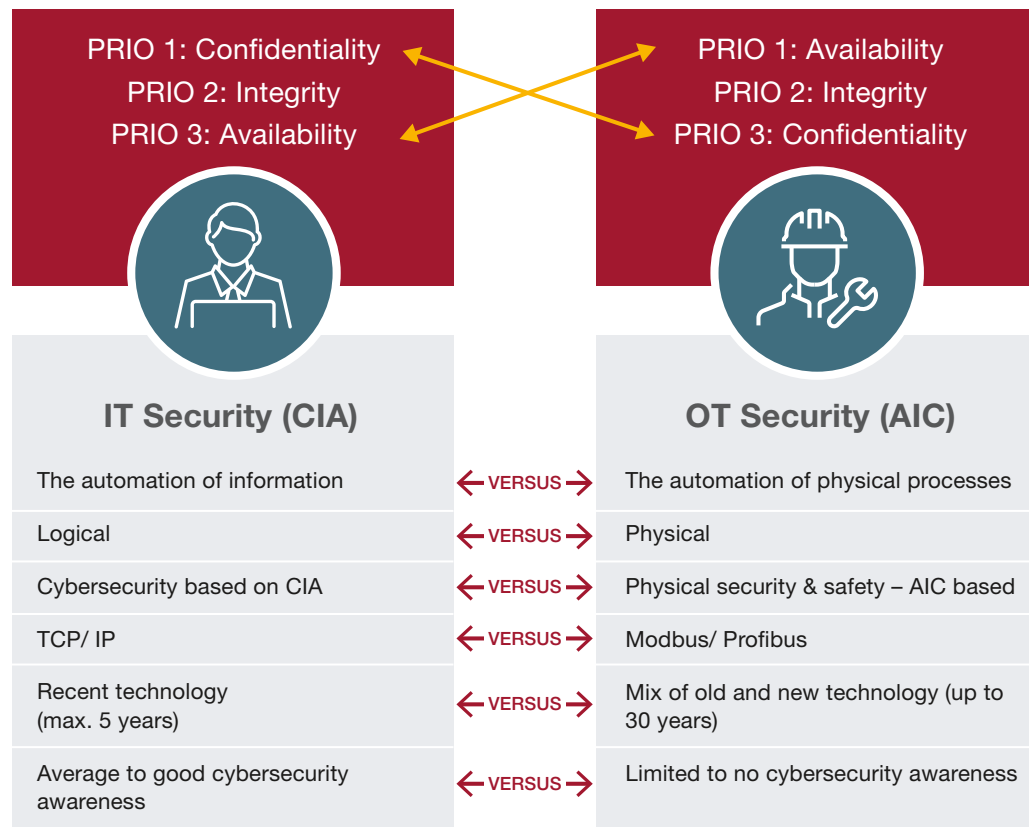

Figure 9: Key differences between IT and OT
3. Segmentation and hardening: To guarantee security, manufacturers need to ensure there is sufficient segmentation and segregation between assets and non-authorized users as per industry standards/Purdue model (Figure 9). It is important to group assets that have a common set of security requirements, both physically and logically. It is equally important to control communication and interconnections between these zones, using conduits that determine the information flow that is allowed between the zones.